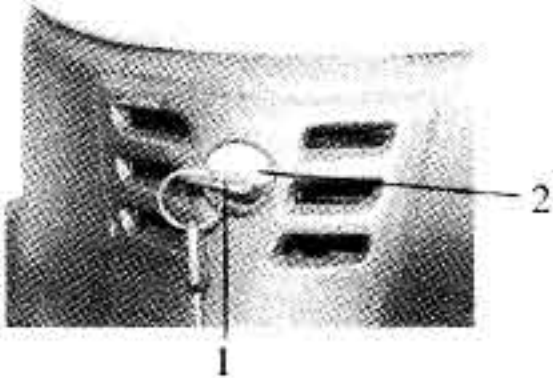

Fig 11
- Putting the key to the fuel tank cover and clockwise to open the fuel tank, (fig 11)